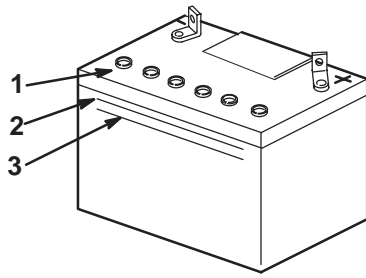

Figure 64
- Look at the side of the battery. The electrolyte must be up to the **upper** line (Fig. 64). Do not allow the electrolyte to get below the **lower** line (Fig. 64).
3. Remove the vent caps from the battery (Fig. 64).
4. Slowly pour distilled water into each battery cell until the level is up to the **upper** line (Fig. 64) on the battery case.
5. Wait five to ten minutes after filling the battery cells. Add distilled water, if necessary, until the electrolyte level is up to the **upper** line (Fig. 64) on the battery case.